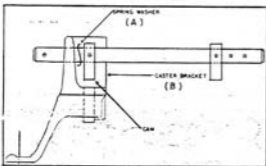

Fig. 4
4. Assemble spring washer (A) and caster mount bracket (B) on each shaft, as shown in Fig. 4.